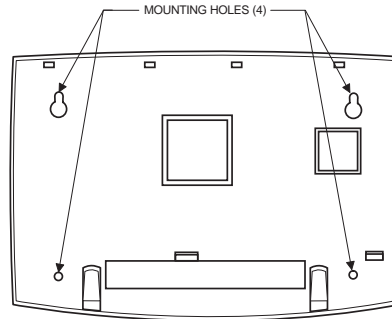

Figure 4. Mounting Holes
2. Hold the base against the mounting surface and mark the four mounting holes (see Figure 4). Remember to leave at least 10 inches above the base for the antennas.